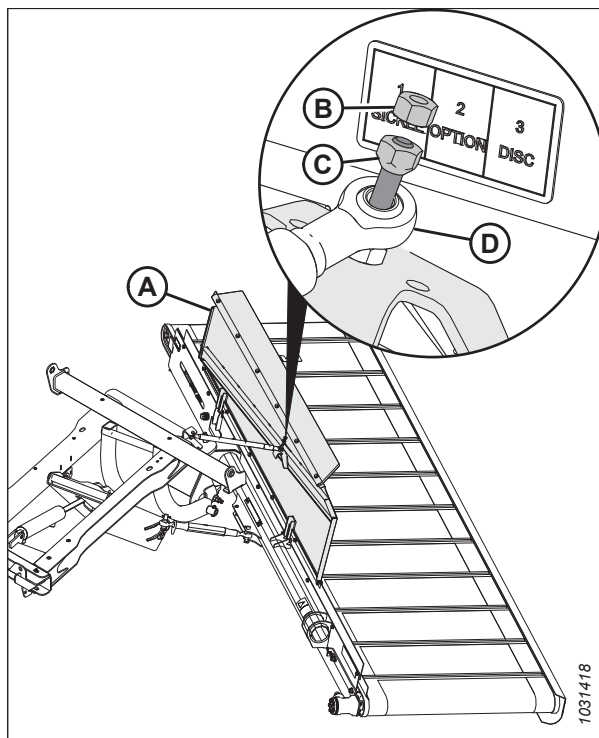

Figure 3.21: Ball Joint Link
Ensure that the taper of nut (C) faces the ball joint as shown in Figure 3.21 *Ball Joint Link*, page 58.
8. Install nut (B) and torque the nut to 26 Nm (19 lbf ft.).